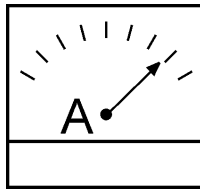

Figure 52. Ammeter (Load)
- Observe the generator's ammeter (Figure 52) and verify it reads the anticipated amount of current with respect to the load. The ammeter will only display a current reading if a load is in use.